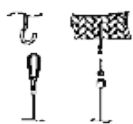

Figure 6
Step 1: Hang one end of the installation rope in the accessory kit on the wall or hook (Choose accessories according to your needs) (Figure 6).